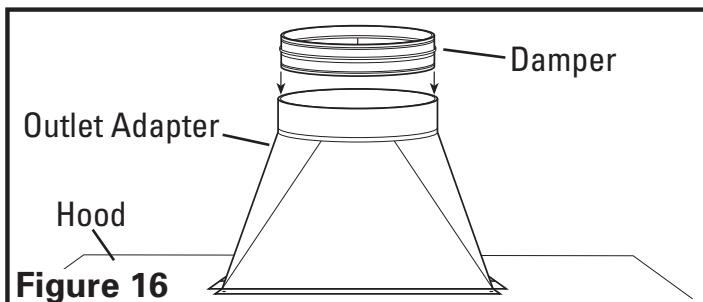

Figure 16
- It is highly recommended that a back draft damper be installed to prevent outside air from flowing back into the home. Choose a back draft damper (available separately) sized to fit the diameter of the outlet adapter. Attach the back draft damper into the outlet adapter, press fit it into the round opening of the adapter until it is fully seated, making sure the damper opens away from the hood otherwise airflow will be restricted (**Figure 16**).